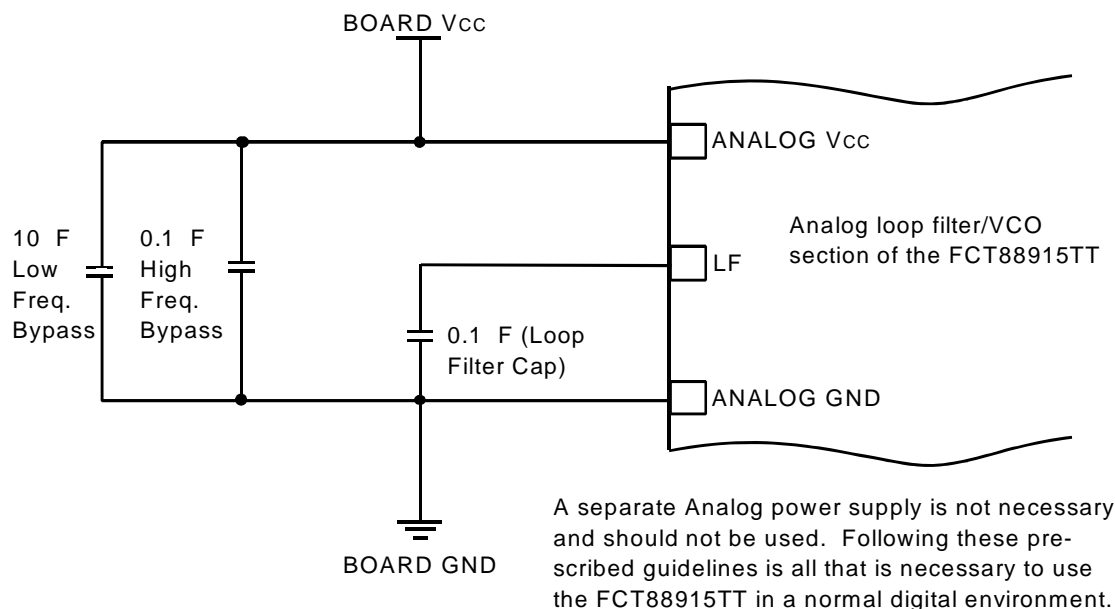

Figure 3. Recommended Loop Filter and Analog Isolation Scheme for the FCT88915TT
1. Figure 3 shows a loop filter and analog isolation scheme which will be effective in most applications. The following guidelines should be followed to ensure stable and jitter-free operation:
If good bypass techniques are used on a board design near components which may cause digital Vcc and ground noise, Vcc step deviations should not occur at the 88915TT's digital Vcc supply. The purpose of the bypass filtering scheme shown in Figure 3 is to give the 88915TT additional protection from the power supply and ground plane transients that can occur in a high frequency, high speed digital system.
2. In addition to the bypass capacitors used in the analog filter of Figure 3, there should be a 0.1 μ F bypass capacitor between each of the other (digital) four Vcc pins and the board ground plane. This will reduce output switching noise caused by the 88915TT outputs, in addition to reducing potential for noise in the "analog" section of the chip. These bypass capacitors should also be tied as close to the 88915TT package as possible.